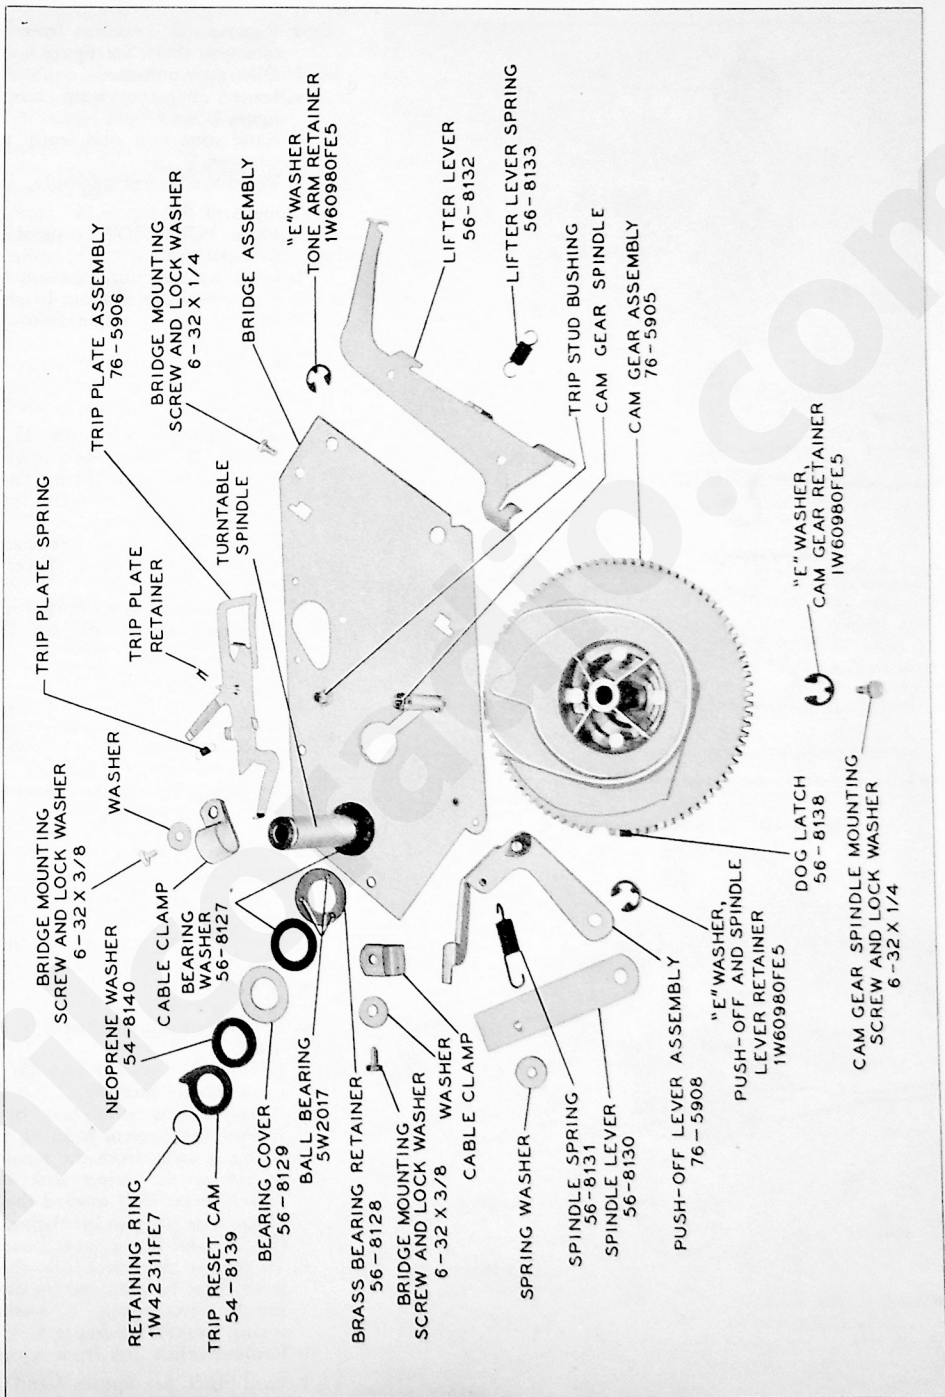

Figure 9. Bridge Assembly
5. Bridge. See figure 9.
- b. Remove spring retaining ring. See figure 9.